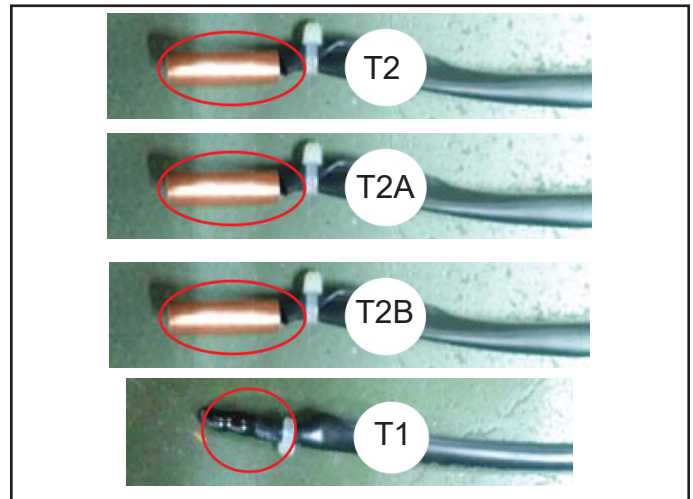

Figure 17. Sensor Identification
1. Identify the T1, T2, T2A and T2B sensors in the accessory packet. See Figure 17.